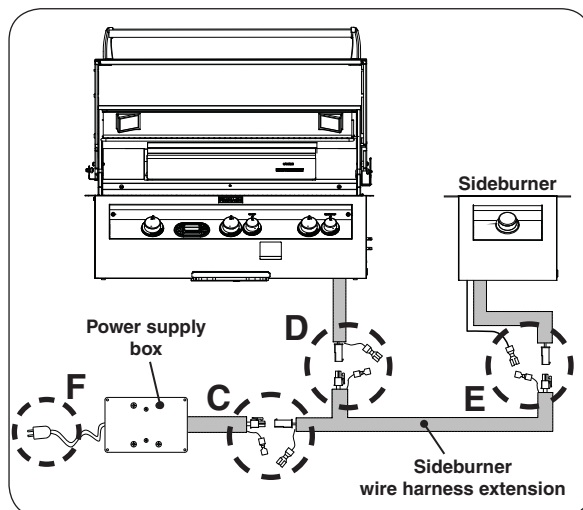

Fig. 16-3 Connect sideburner to grill setup
3. Locate the end of the sideburner wire extension that has two molex and ground connections. Connect the extension (plug) molex connection to the power supply (receptacle) molex connection and ground wires (See Fig. 16-3, **C**).
4. Connect the extension (receptacle) molex to the grill (plug) molex connection and ground wires (See Fig. 16-3, **D**).
5. Connect the opposite end of the extension to the sideburner as shown in Fig. 16-3, **E** (molex and ground wire connections).
6. Reconnect the power cord (see Fig. 16-3, **F**).